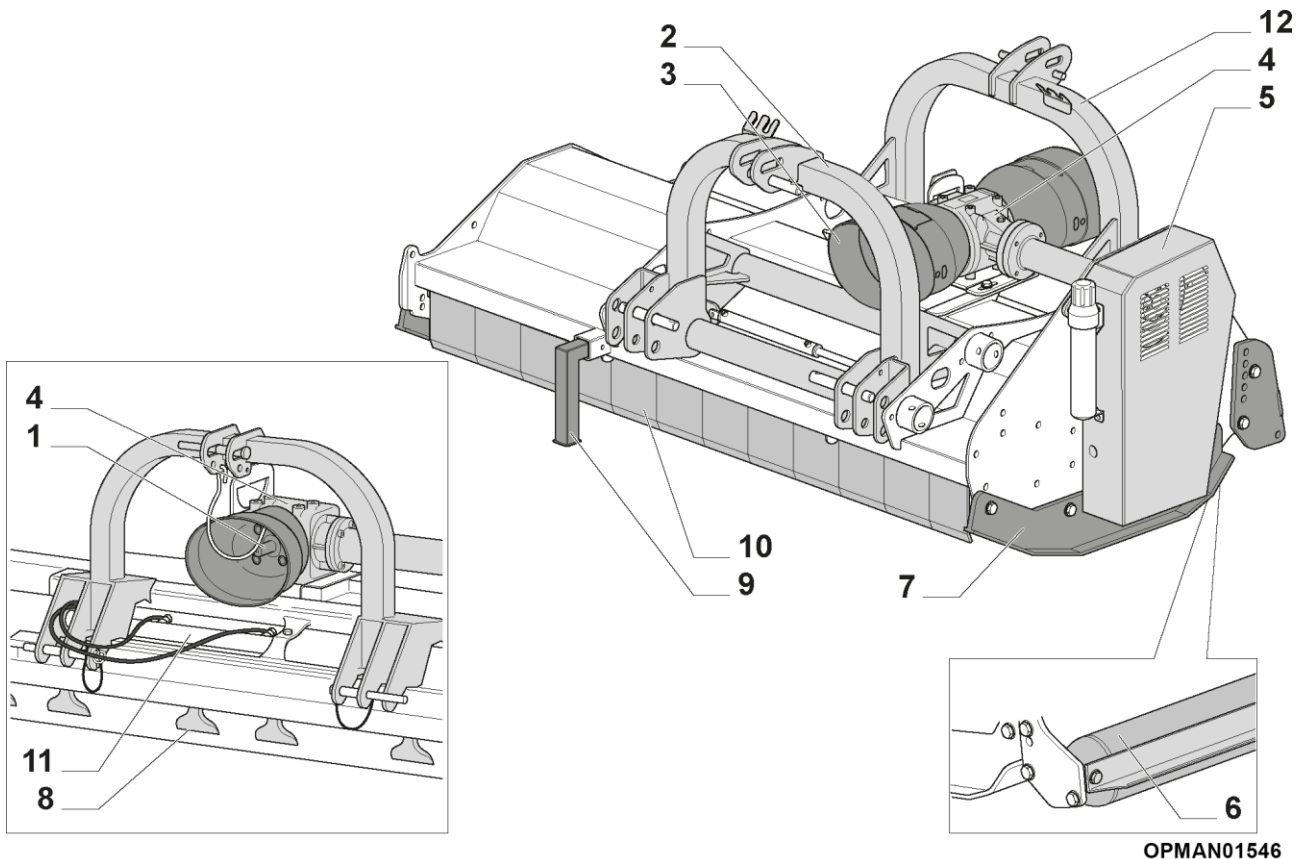

Figure 1
With reference to Figure 1, the Mower is a machine designed and built exclusively for mowing directly on site (orchards, vineyards and kiwi plantations) by mulching vegetation; it mows prunings, grass, straw, tobacco, artichokes, beets, cotton and pruning residues. The machine be front mounted or rear mounted. It must not be used for other uses or with other materials.
With reference to Figure 1, the mower consists of a fully-welded metal cowl fabrication fitted with a rotor shaft fitted with flails (8), with a finishing rear roller (6) to compact the grass once the grass has been cut. The cowl is structured to allow the machine to be either operated front mounted or rear mounted, with the three-point hitch (2/12) able to be fitted both sides. The front, intake part of the machine is protected by a number of steel metal flaps (10) which prevent the cut material and other objects from being ejected from the front of the machine. The mower is powered by the attached tractor by connecting the gearbox (4) to the PTO of the tractor by a driveshaft. The gearbox allows for the correct operating speed to be achieved to the rotor shaft via a pulley and belt drive system (5).